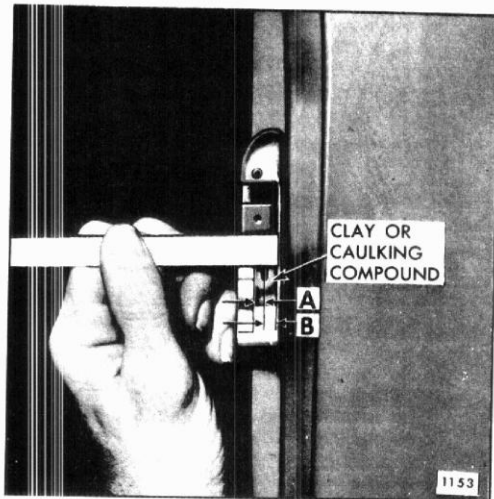

Fig. 9-58-Tail Gate Lock Striker Caulking Check
- b. To determine if tail gate lock striker service spacers are required, apply modeling clay or body caulking compound in the lock striker notch where the lock extension engages and close tail gate to form a measureable impression in the clay or caulking compound, as shown in Figure 9-58.